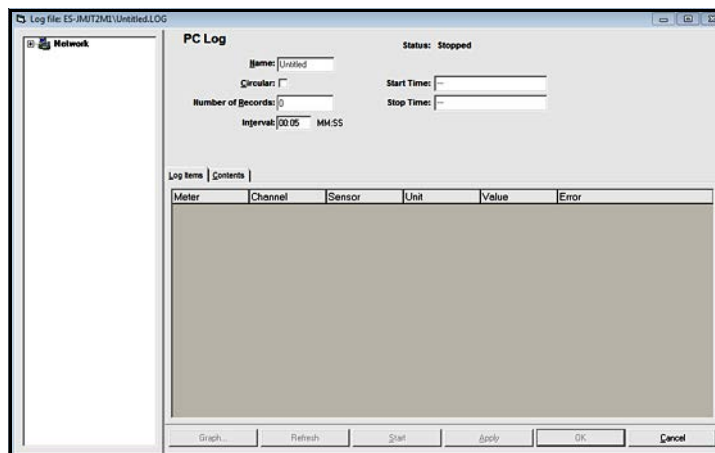

Figure 74: The PC Log Window
7. At the resulting "*PC Log*" window shown in *Figure 74* below, place a check mark in the text box to create a *circular log*, or leave this box empty to create a *linear log*.
8. Enter a sampling *interval* in the text box shown in *Figure 74* on page 53, or check “Max Comm Rate” to sample data at the fastest speed allowable by the system (1 sec).
- Click on the “Log Items” tab (see *Figure 74* on page 53) for a list of the parameters specified for logging).
- Click on the “Contents” tab (see *Figure 74* on page 53) for a list of all the data points logged to date for the parameter currently highlighted on the “Log Items” tab).